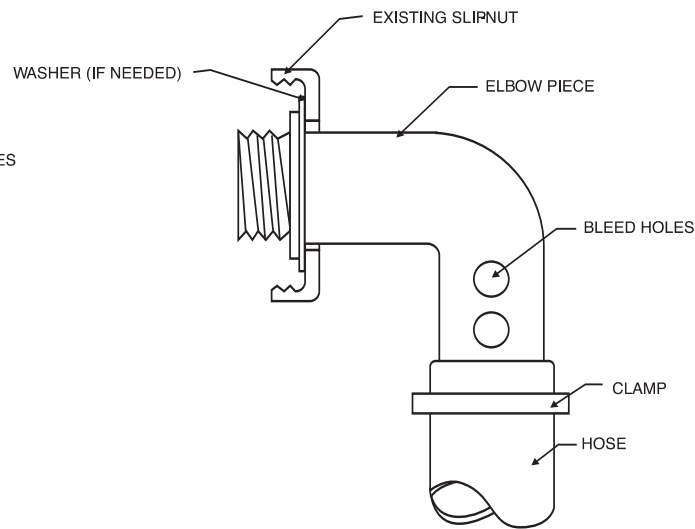

FIGURE 3
3. Refer to Figure 1. Uncoil the hose (5) and remove all twist. Using clamps (17), clamp one end of the hose to the back side of the fountainhead (1) and the other end to the inlet adapter from step 2. Cover one set of bleed holes with the hose (Fig. 3). To tighten clamp, grasp "tabs" between thumb and forefinger and squeeze. Tighten securely with a pair of pliers. to open the clamp, grip one "tab" of the clamp with pliers and twist loose.
4. Using the tie wrap (16), LOOSELY attach the anchor (6) to the hose (5). The anchor (6) should be attached to the hose (5) at a point as deep as the water plus approximately two feet. You will have to estimate what the water depth is where you want the fountain and add two feet. CAUTION: DO NOT CONSTRICT THE HOSE BY TIGHTENING THE TIE WRAP (16) TOO TIGHT.
5. Attach the inlet adapter to the pool inlet by screwing the slip-nut back on (Fig. 3).
6. Place the fountain assembly into the pool. Position the fountain in the desired location being careful not to crimp the hose (5).
Height adjustment is achieved by covering more or less of the bleed holes (Fig. 3) on your elbow piece (8) with the hose (5). The more holes covered, the higher the fountain and vice versa.